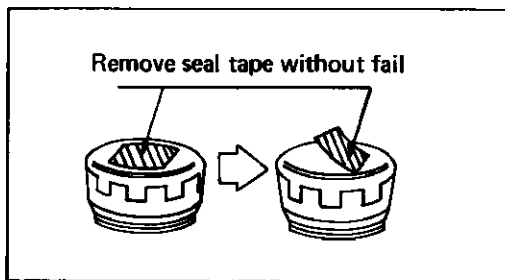

Fig. 1
- 1) Remove battery from the tractor, and remove seal tape from each vent plug. (Fig. 1)